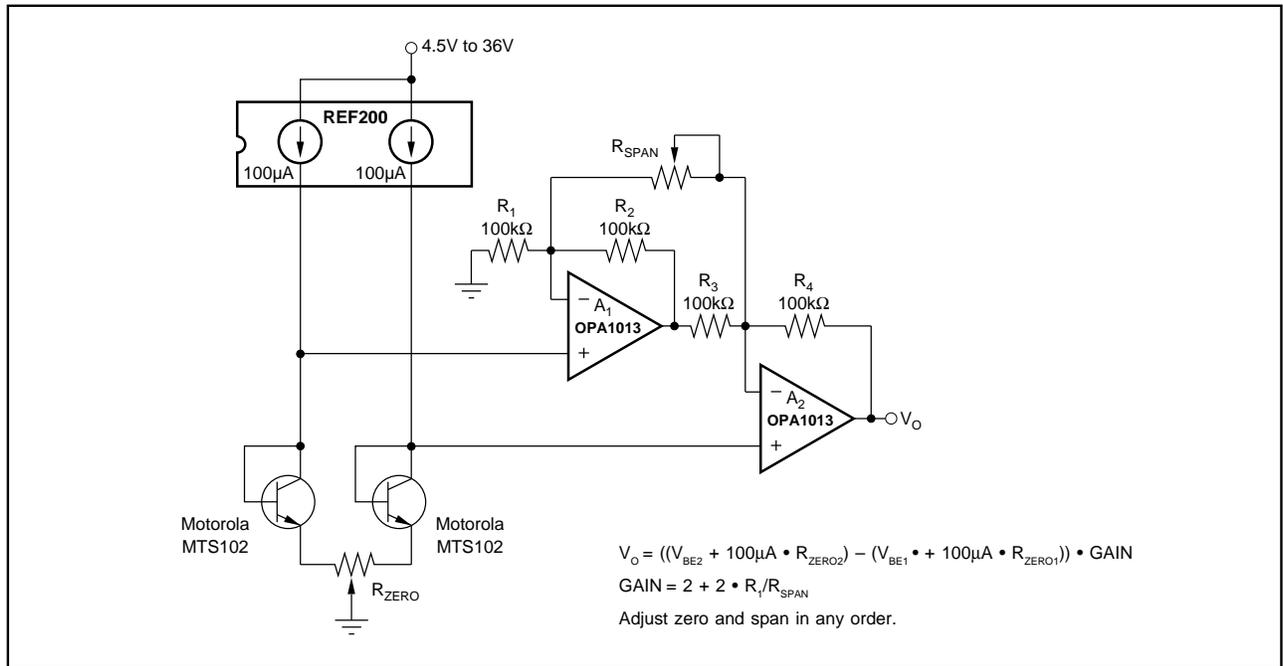

Figure 5. Differential Temperature Measurement Circuit.
For differential temperature measurement, use the circuit shown in Figure 5. In this circuit, the differential output between two temperature sensing diodes is amplified by a two-op-amp instrumentation amplifier (IA). The IA is formed from the two op amps in a dual OPA1013 and resistors  $R_1$ ,  $R_2$ ,  $R_3$ ,  $R_4$ , and  $R_{SPAN}$ .  $R_{SPAN}$  sets the gain of the IA. For good common-mode rejection,  $R_1$ ,  $R_2$ ,  $R_3$ , and  $R_4$  must be matched. If 1% resistors are used, CMR will be greater than 70dB for gains over 50V/V. Span and zero can be adjusted in any order in this circuit.
The following relationships can be used to calculate nominal resistor values for the Figure 5 circuit.